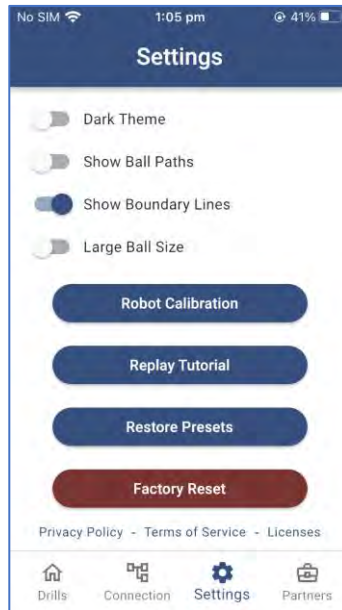

Figure 2-19
2.2.3 Settings Scree (Figure 2-19)